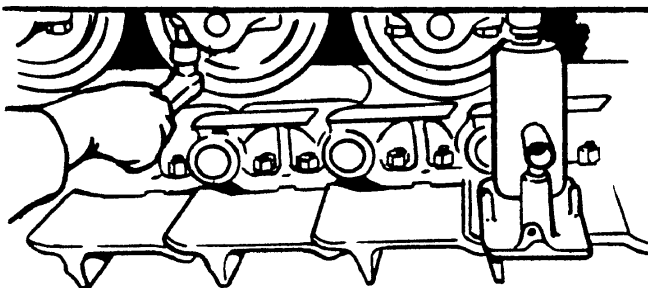

Fig. 9.35. Removing Roller
5. Remove the bolts securing the track roller brackets to the track frame (Fig. 9.35)